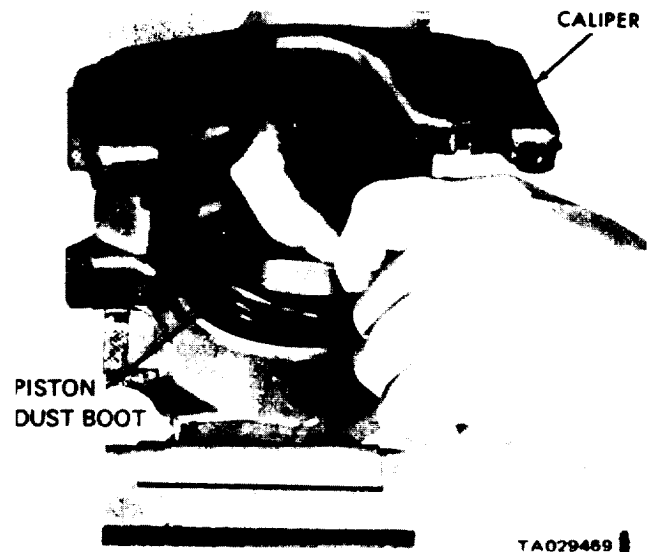

Figure 22-9. Installing Piston Dust Boot.
(4) Coat the new piston boot with brake fluid. Use your finger to install the boot in the caliper by working it into the outer groove (figure 22-9).